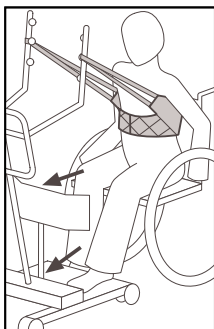

Figure 3
5. Place the clients knees secure against the kneepad and make sure that the feet are positioned well on the footplate. **Figure 3.**